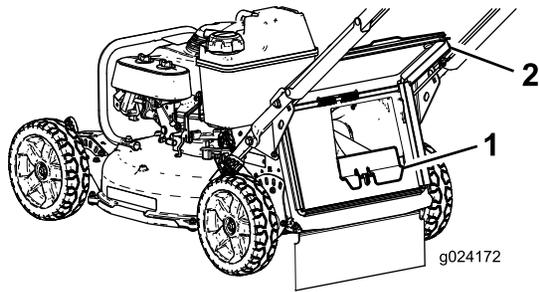

Figure 21
the rear-discharge chute until the latch locks into place (Figure 21).
3. Remove the rear-discharge plug by pushing in the latch with your thumb and pulling the plug out from the machine (Figure 21).